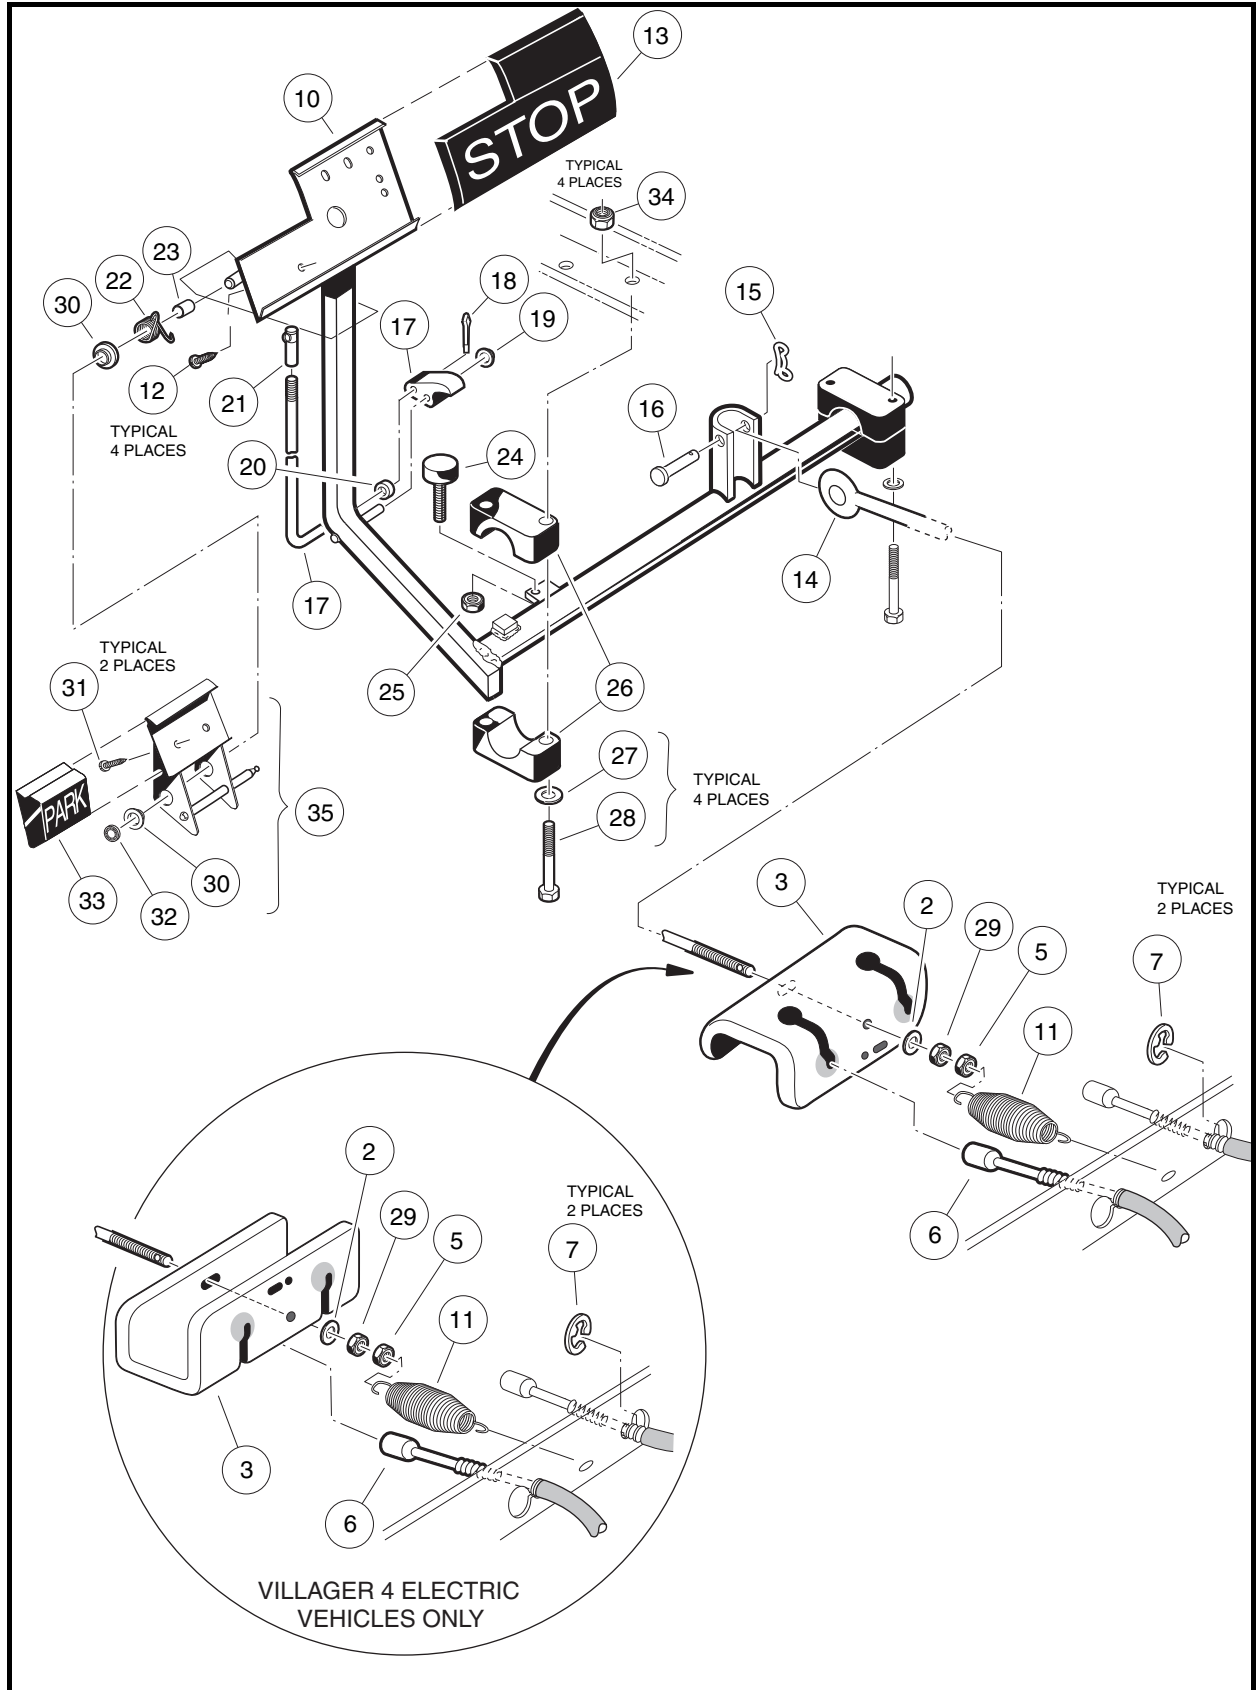
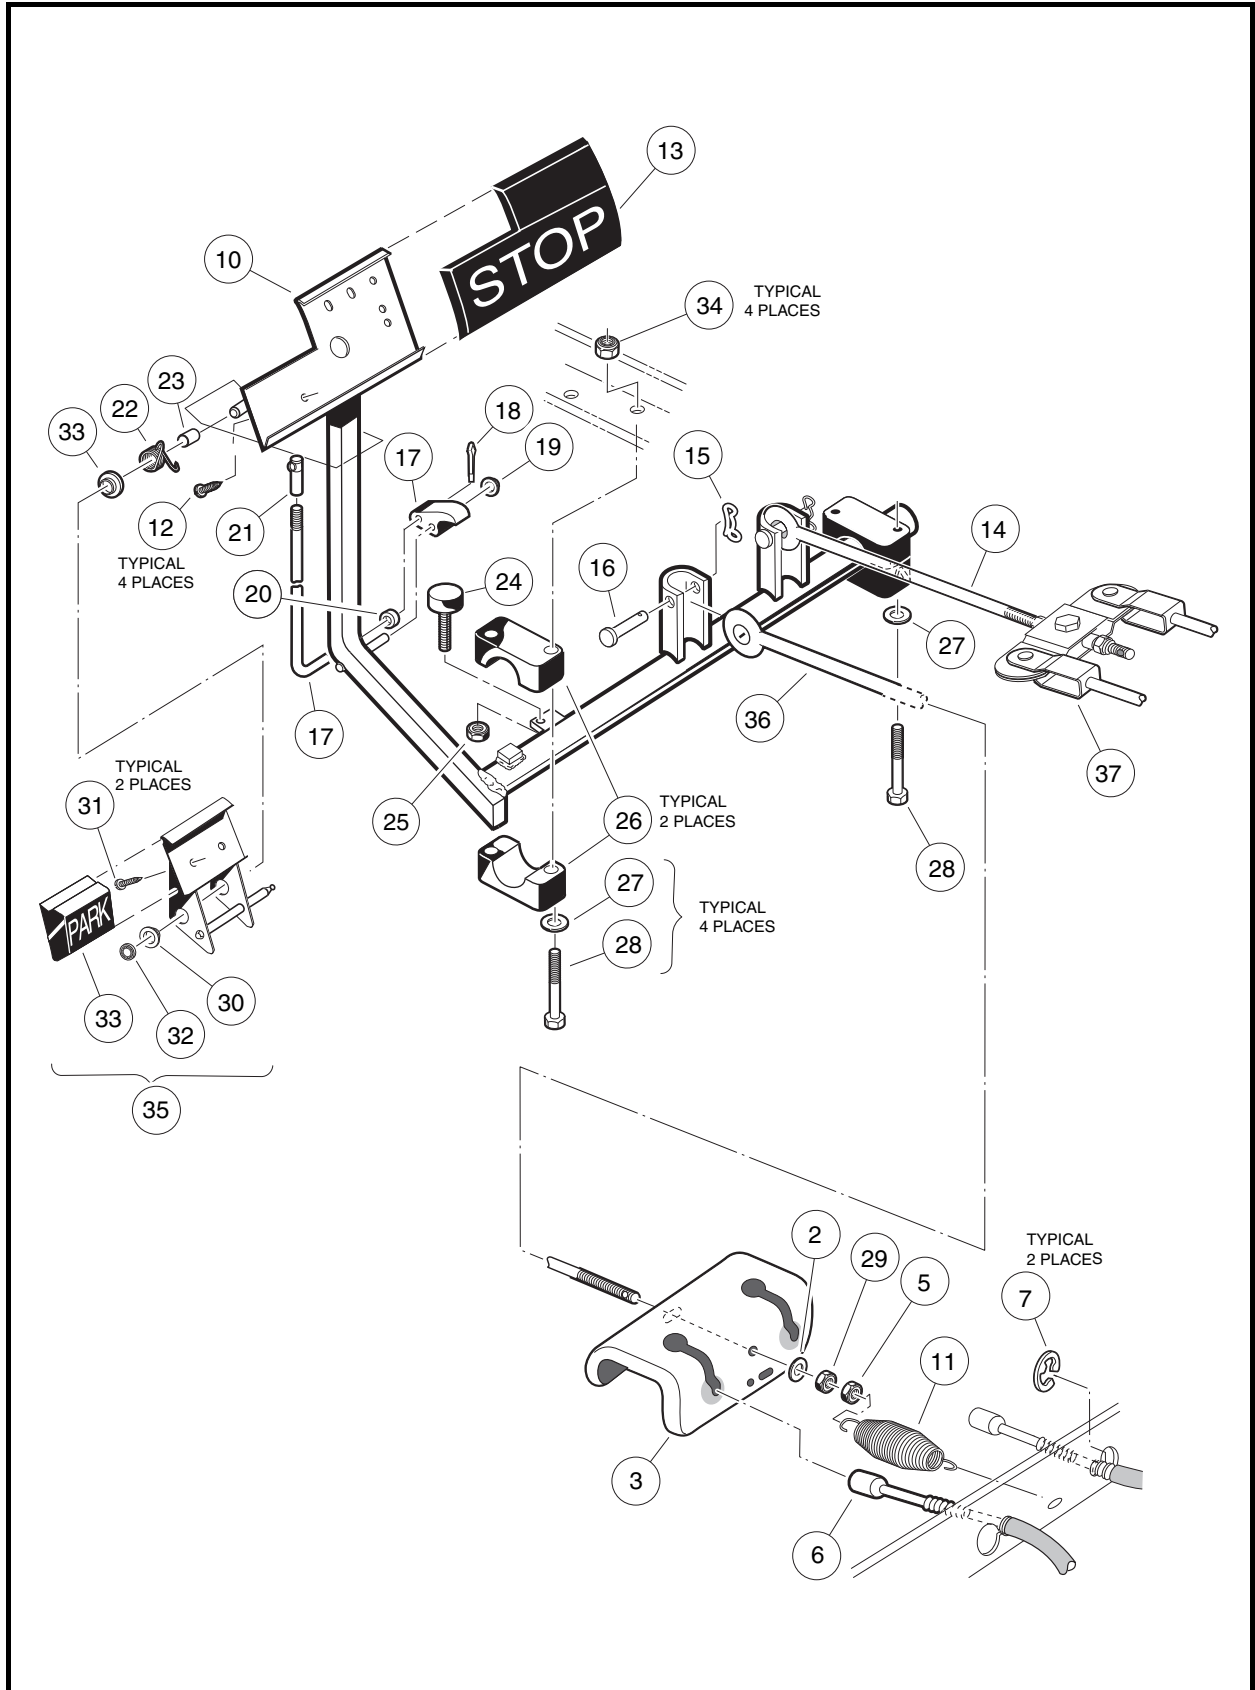
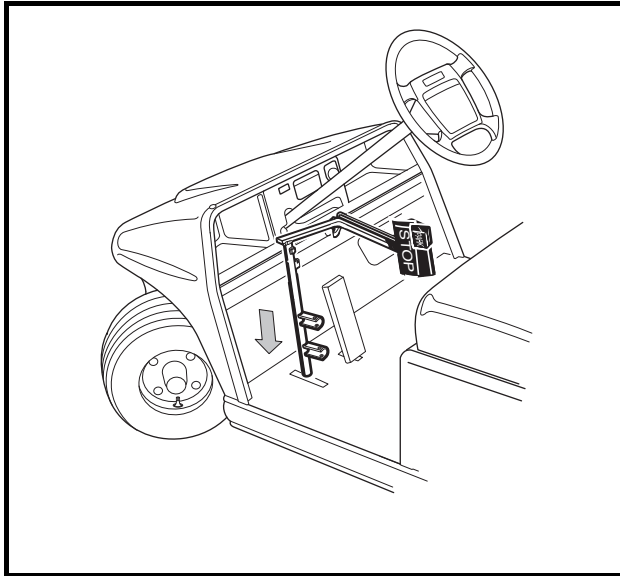

Figure 5-1 Brake and Park Brake Pedal Assembly and Mounting – Two-Wheel Brake Vehicles
Figure 5-2 Brake and Park Brake Pedal Assembly and Mounting – Four-Wheel Brake Vehicles
Figure 5-3 Brake Pedal Weldment Through Floor
- 3.1. Disconnect the equalizer rod(s) (14 and 36) from the pedal shaft by removing the clevis pin(s) (16) and bow-tie pin(s) (15) (**Figure 5-1, Page 5-2 or Figure 5-2, Page 5-3**).
- 3.2. Remove the nuts (34), flat washers (27), bolts (28), and mounting blocks (26). If the mounting blocks (26) show signs of excessive wear or are damaged, they must be replaced with new ones before installing pedal assembly (**Figure 5-1, Page 5-2 or Figure 5-2, Page 5-3**).
- 3.3. Remove the nut (25) and brake stop bumper (24) (**Figure 5-1, Page 5-2 or Figure 5-2, Page 5-3**).
- 3.4. Lift the pedal assembly (10) through the floorboard (**Figure 5-3, Page 5-4**).
1. From the top side of the floorboard, insert the brake pedal assembly (10) (**Figure 5-1, Page 5-2 or Figure 5-2, Page 5-3**) through the opening in the floor as shown (**Figure 5-3, Page 5-4**) and install the brake pedal stop bumper (24) (**Figure 5-1, Page 5-2 or Figure 5-2, Page 5-3**) on the brake pedal assembly, but do not tighten the jam nut (25) at this time.
2. Secure the equalizer rod(s) (14 and 36) to the brake pedal assembly (10) with clevis pin(s) (16) and bow-tie pin(s) (15) as shown (**Figure 5-1, Page 5-2 or Figure 5-2, Page 5-3**). See following **NOTE**.
3. Position and attach brake pedal assembly, mounting blocks (26), and washers (27) to vehicle frame as shown. Tighten the bolts and nuts to 95 in-lb (10.7 N·m) (**Figure 5-1, Page 5-2 or Figure 5-2, Page 5-3**).
- 3.1. To remove the park brake rod and pawl assembly (17 through 20), remove the push nut (19) and disconnect the ball joint sleeve (21) from the park brake pedal (35) (**Figure 5-1, Page 5-2 and Figure 5-2, Page 5-3**). **See following NOTE.**